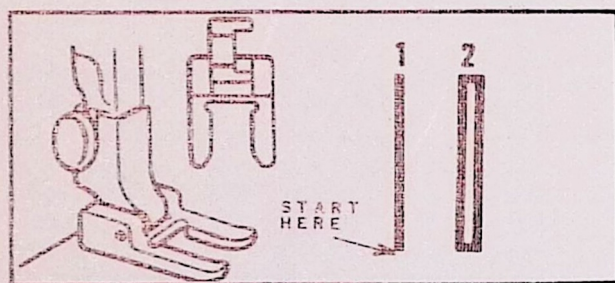

Fig. 27
1. Remove regular presser foot and replace with buttonhole foot. See Fig. 27.
6. The buttonhole will consist of two parallel rows of satin stitches connected at the top and bottom. The rows of satin stitches are made as the needle swings alternately to the left and right on the downward throw of the needle. To make an accurate buttonhole, position the material under the buttonhole foot so that the needle, on the **left hand downward throw**, will be positioned to enter the material in the center of the mark at the end nearest to operator. See No. 1 Fig. 27. Make this test by turning the hand wheel about $\frac{1}{4}$ turn each way, but do **not** permit the needle to actually enter the material at this time. If the needle should be positioned in such a manner that it would enter the material on the **right hand downward throw**, remove the material, then hold the needle and bobbin threads loosely in the left hand and turn the hand wheel one complete turn toward the operator so that the needle will go down and up again to be in position to enter the material on the **left hand downward throw**. After the needle is raised, pull both threads up to avoid broken threads. Reposition material under buttonhole foot. Lower the presser bar, making certain the needle is clear of the material.